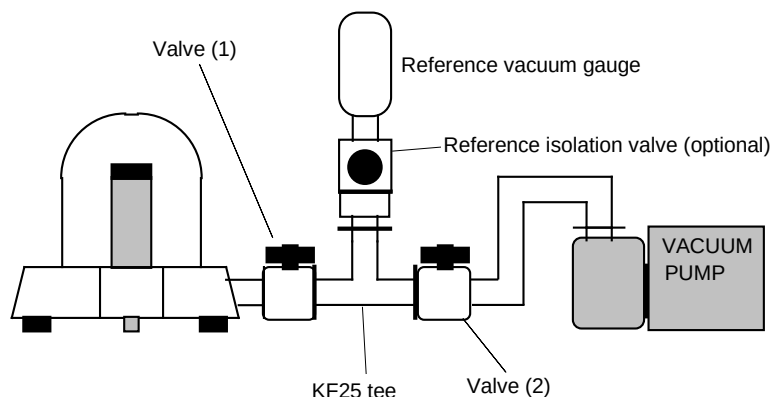

Figure 43. Vacuum gauge calibration setup
To compare the PG7601-AF vacuum gauge and a reference vacuum gauge, proceed as follows (refer to Figure 43):
- ❸ Install a vacuum valve, valve 1 (see Figure 43), at the PG7601-AF KF25 vacuum port (valve 1 is provided with the PG7601-BAS-AF).
Install a KF25 tee at valve 1 (see Figure 43).
Install a vacuum valve, valve 2, at the end of the tee (see Figure 43) (valve 2 is NOT provided with the PG7601-BAS-AF).